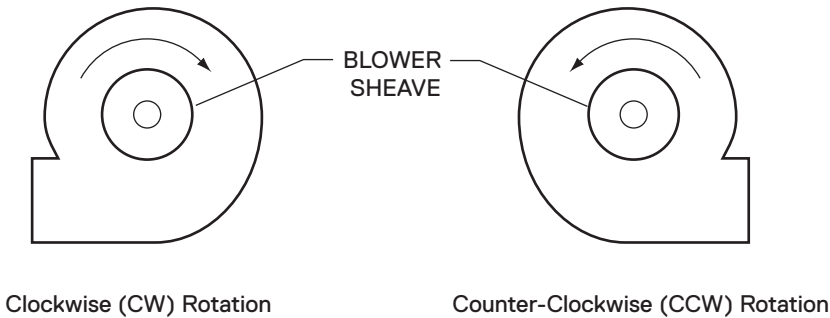

Figure 2
- 15 ☐ ☐ ☐ Apply power to the blower motor momentarily (bump start) to check for proper blower wheel rotation. If the blower is rotating in the wrong direction, reconnect the motor leads per the motor manufacturer's wiring schematic. **Blower rotation is determined by viewing the blower from the motor side of the blower, NOT from the inlet side.** After reconnecting the leads, repeat this step. See **Figure 2**.